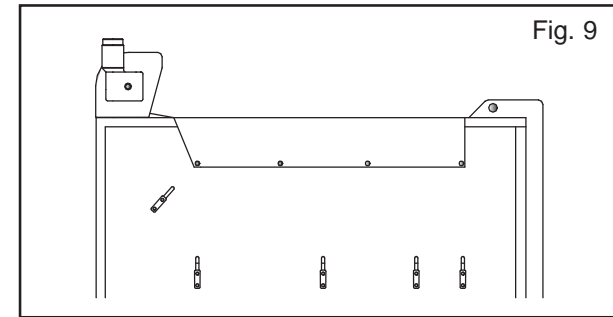

Fig. 9
1. Position the first hook 6" (15.24cm) down and 12" (30.48cm) forward (toward the cab) from the first grommet (Fig.9).